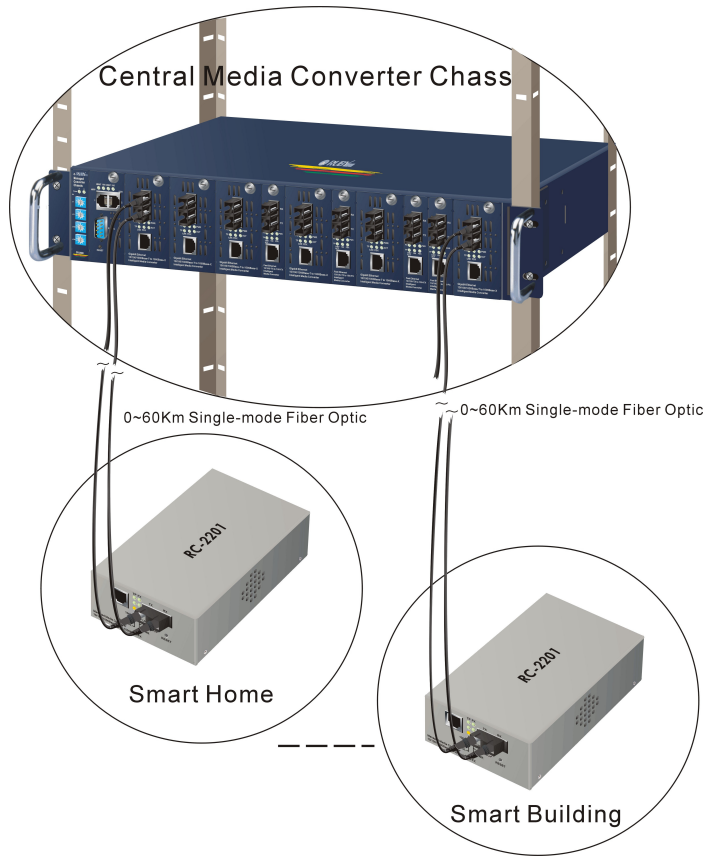

Fig. 2-2 Single-mode Fiber Optic Network Configuration
- Peer-to-peer application is used in two remote offices. (See Fig. 2-2)